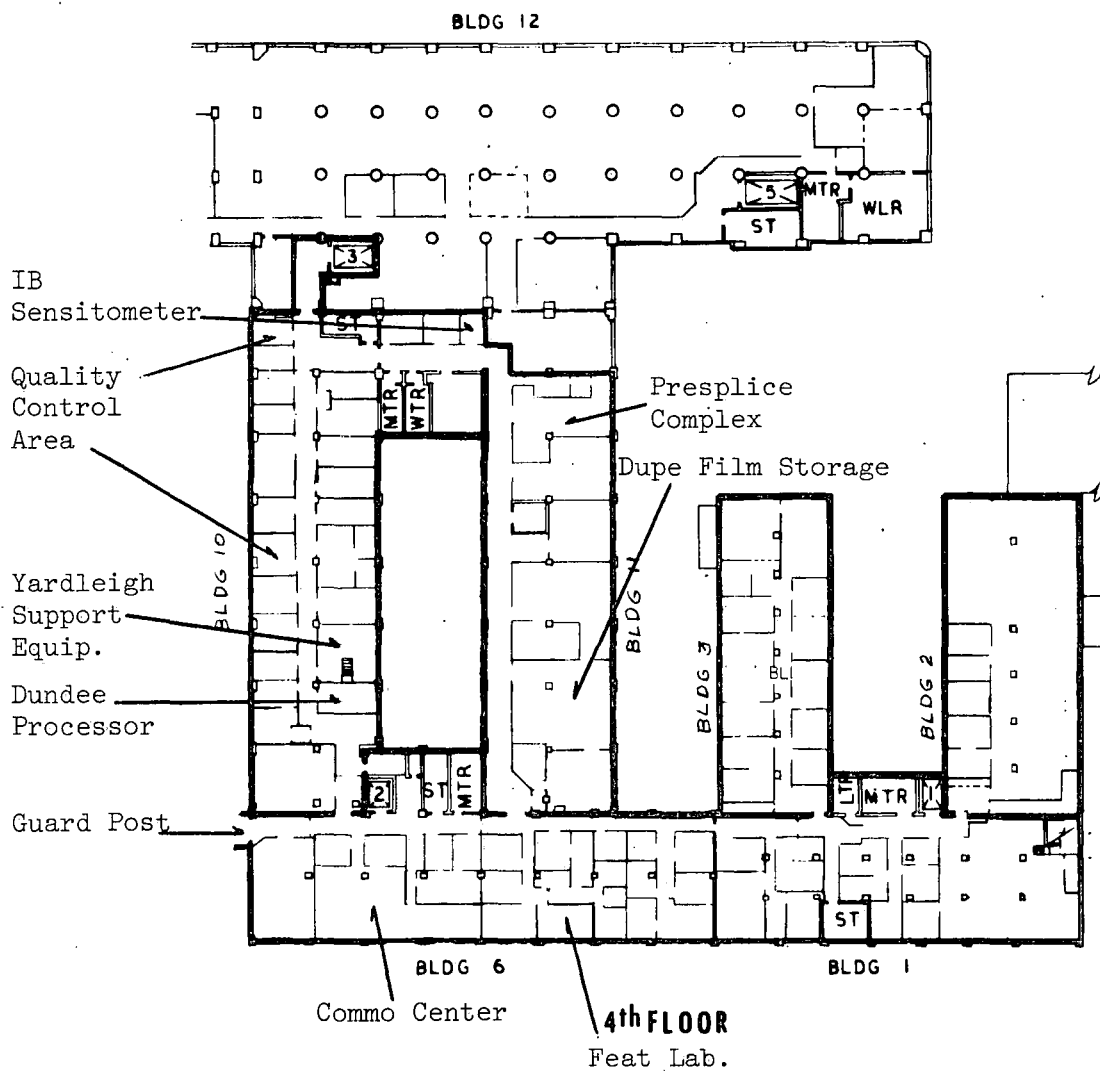

Figure 6
- 4th Floor - Bldgs. 1-2-3-6-10-11 (Figure 6)